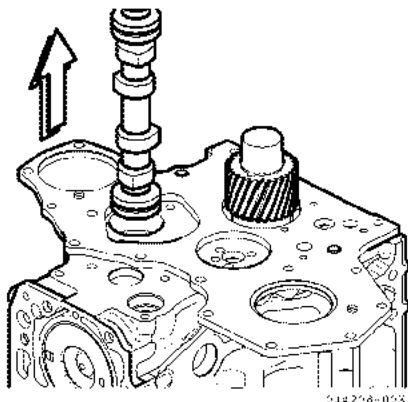

Figure 5-49
43. Remove the camshaft (Figure 5-49):